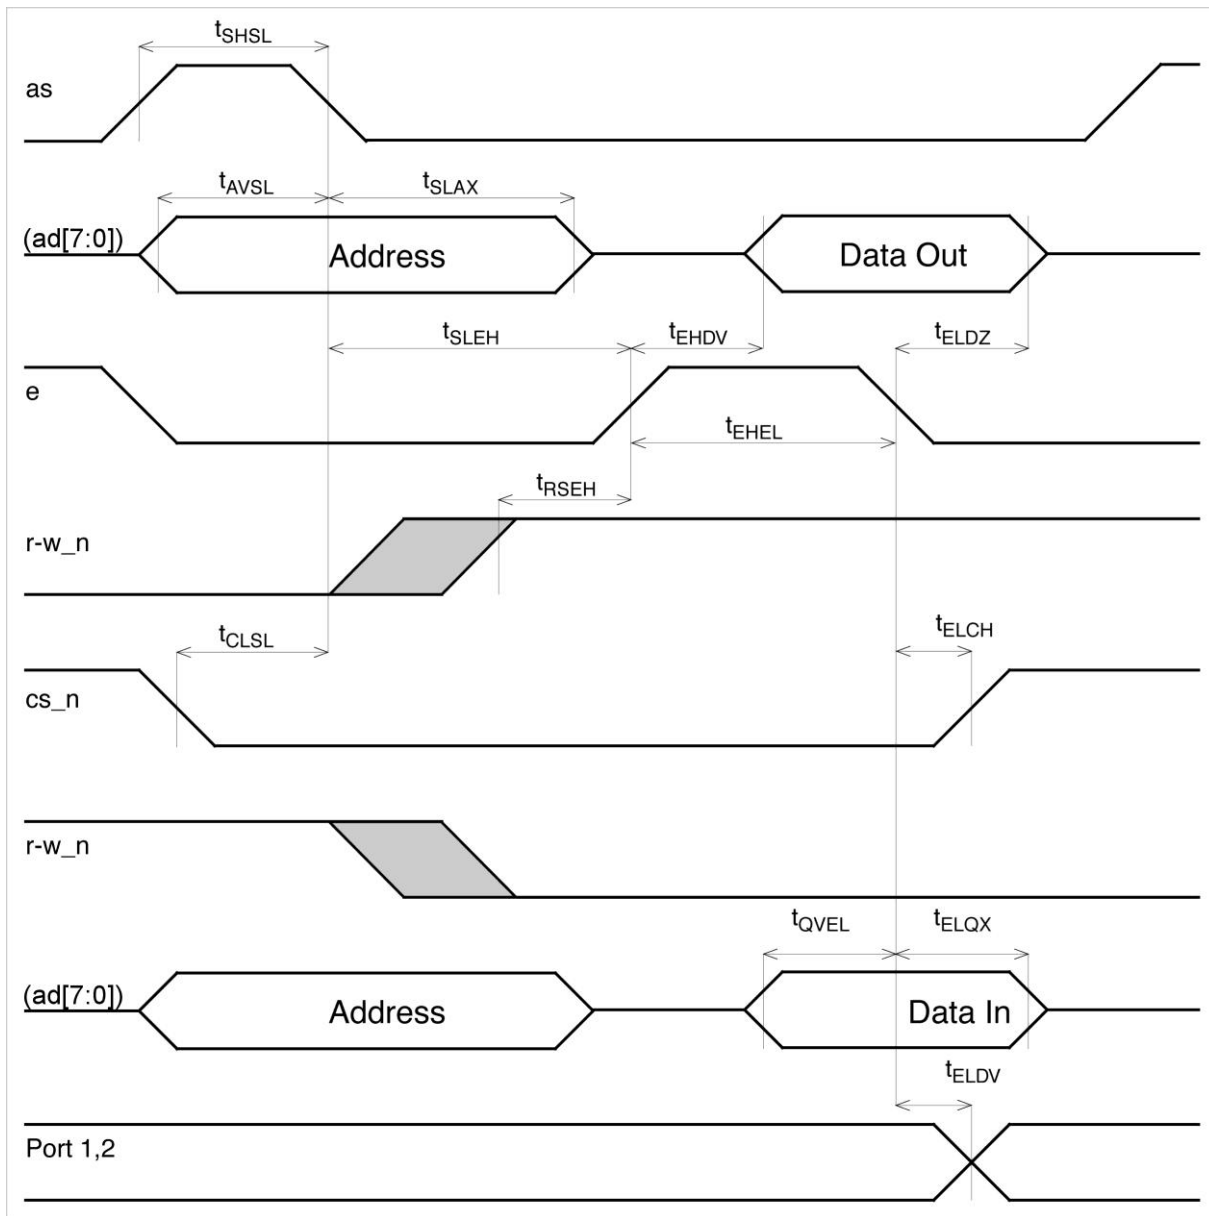

Figure 11. Mode 2: General Bus Timing
- Mode 2: General Bus Timing (Table 11/Figure 11)